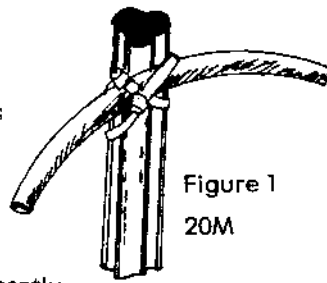
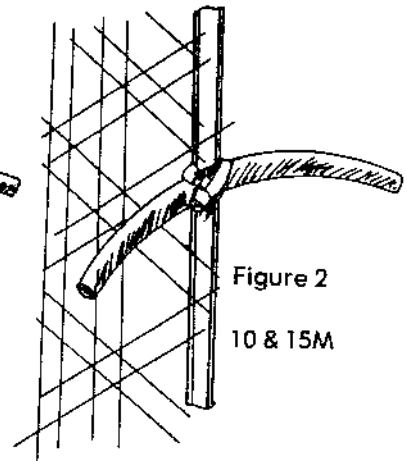

Figure 1
Figure 2
Lay all fiberglass arms on flat surface, making sure that all colours show. Attach a nylon tension tube at each "black" mark on one of the arms, using two nylon straps at the 10 meter, 15 meter, and 20 meter positions. (See Fig. 1 & Fig. 2). The 20 meter nylon strap encircles all three fiberglass rods. These straps should be pulled tight with pliers and the end snipped off. Make sure position is correct before permanently attaching. Preferably after wire is strung. See Step 5.
2. Measure 15.5" (39.3 cm) up each of the driven blue marked arms and attach the driven wire loop to this point using a tyrap, **DO NOT TIGHTEN**, just insert the tail of the tyrap into the lock sufficient for it to hold. Fig. 2.
3. Repeat this with each of the driven arms until you have the wire loop attached to all four arms. Make sure the coax connector is in the vertical plane as in fig. 2. Now bring the wire loop into reasonable square by carefully tightening each of the tyrap a bit at a time. The driven element is now ready for the attachment separate from the one used for the other bands.